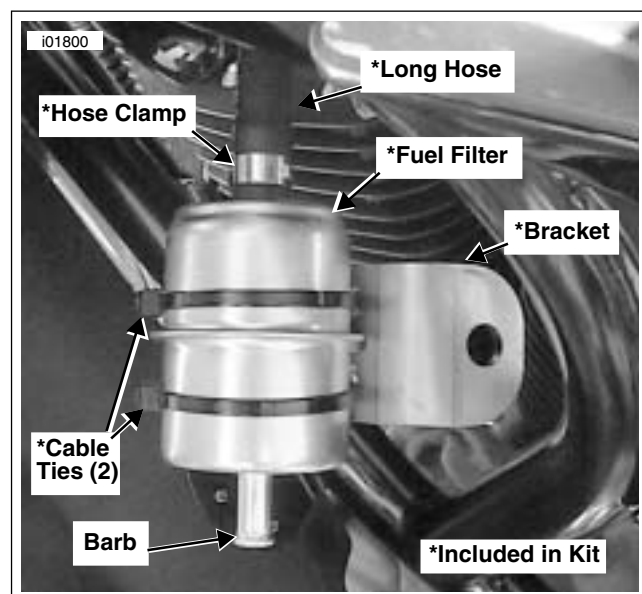

Figure 3. Filter Mounted to Bracket
- See Figure 3. Using two cable ties provided in kit, attach the fuel filter to the bracket with the filter's ridge on the middle slot of the bracket. Verify that the flow arrow on the filter is pointing towards the front of the vehicle (in direction of fuel flow).